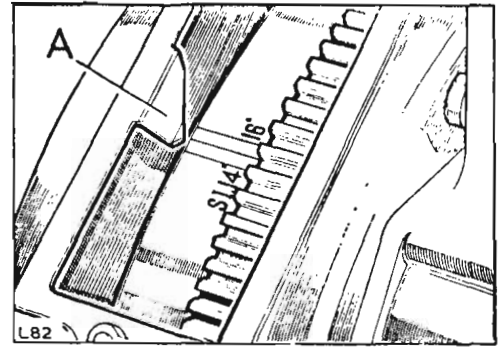

Fig. 26. Timing marks on flywheel
1. Turn the crankshaft in the direction of rotation until both valves of number one cylinder are closed and the piston is ascending the bore on the compression stroke. Continue to turn the crankshaft slowly until the pointer (A) Fig. 26 is midway between the 14° and 16° marks, that is 15° before top dead centre. This must be done carefully. If the flywheel is inadvertently turned too far and the timing mark goes past the pointer, do not turn the flywheel back but repeat the above operation.